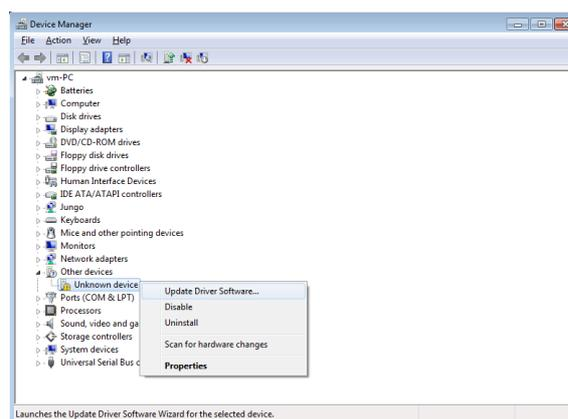

Figure 4.4.
2. In the device manager, find the unknown device. Right click on it to open the menu and choose **Update Driver Software...** as Figure 4.4 shows.